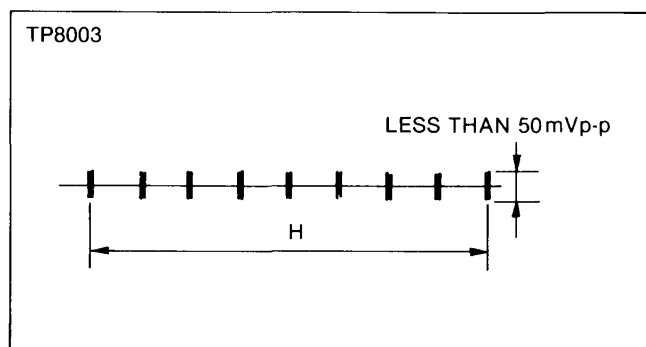

Figure E14
3. Adjust VR8003 so that the waveform becomes minimum as possible (less than 50mVp-p) as shown in Figure E14.